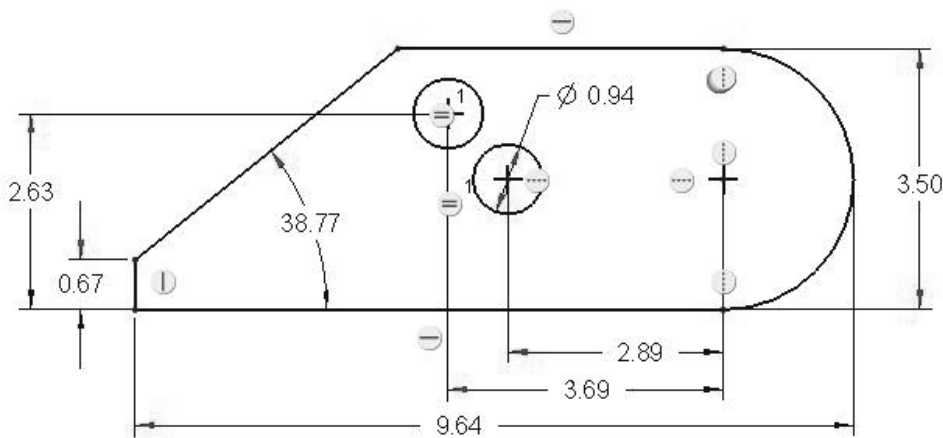

Figure 3-22 Add Dimensions
- Step 8:** Use  to dimension the sketch according to design intent. The first step is to dimension the figure per design intent as shown in Figure 3-22. Don't worry about the value of the dimensions yet. *Press* MMB to terminate. Note that the rightmost hole is aligned with the center of the right end arc. Use the horizontal constraint to satisfy this condition.